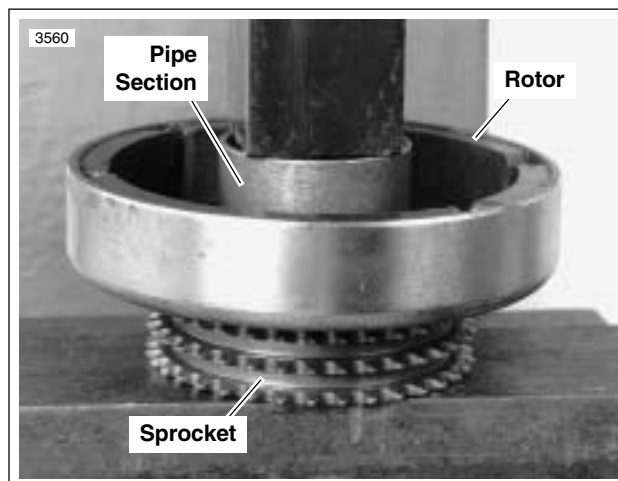

Figure 7-25. Pressing Rotor onto Sprocket
6. See Figure 7-25. Attach rotor to sprocket.